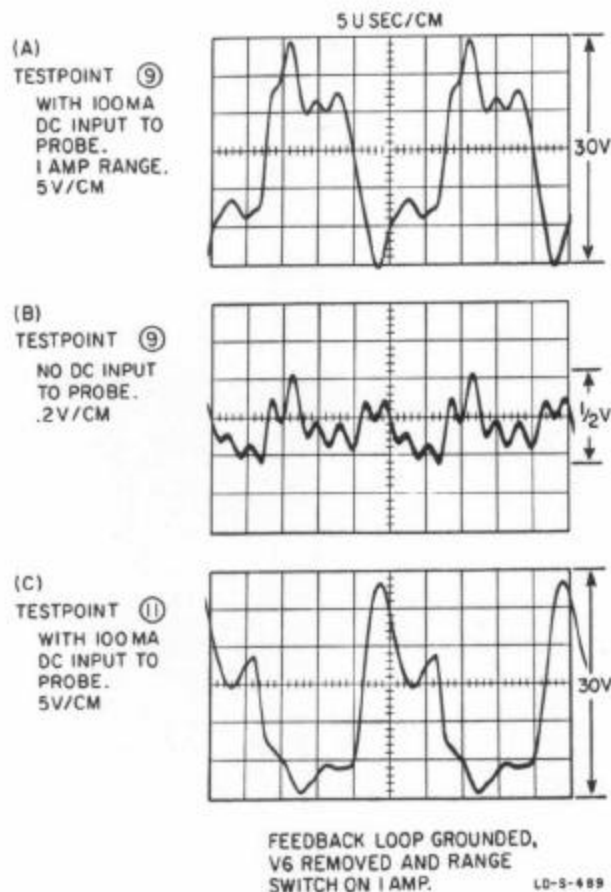

Figure 5-7. Trouble Localization Waveforms
b. With Q1 still grounded, check waveforms (figure 5-7) at transformer T2 (testpoints (9), (10), and (11) on the schematic). Note that the amplitude and shape of these waveforms vary as you rotate the ZERO control. The waveform at testpoint (10) should be in-phase with the waveform at testpoint (9) while the waveform at testpoint (11) should be out-of-phase. If these waveforms are not correct, check V3, 4, and C19 and associated circuitry. If these waveforms are correct check the waveform at testpoint (5). If waveform (5) is correct go to step d. If waveform (5) is not correct, go to step c.